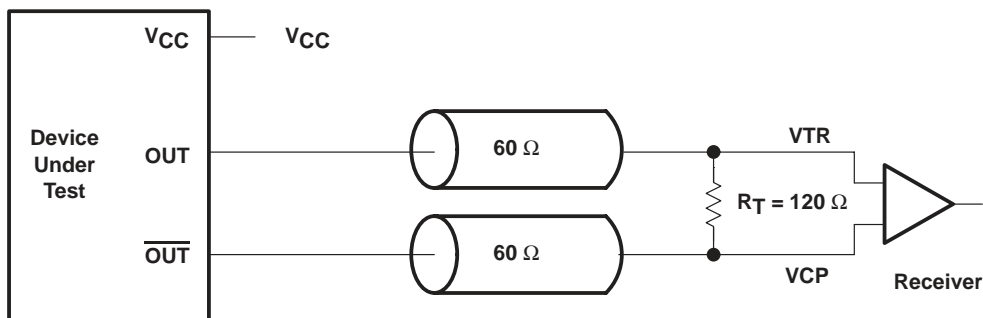

Figure 3. Differential Signal Using Direct Termination Resistor
6. Differential input signal voltage specifies the differential voltage  $|V_{TR} - V_{CP}|$  required for switching, where  $V_{TR}$  is the true input level and  $V_{CP}$  is the complementary input level (see figure 3).
‡ The value of VOC is expected to be |VVTR + VVCP|/2. In case of each clock directly terminated by a 120-Ω resistor, where VVTR is the true input signal voltage and VVCP is the complementary input signal voltage (see Figure 3).
Figure 3 shows the differential clocks are directly terminated by a 120-Ω resistor.